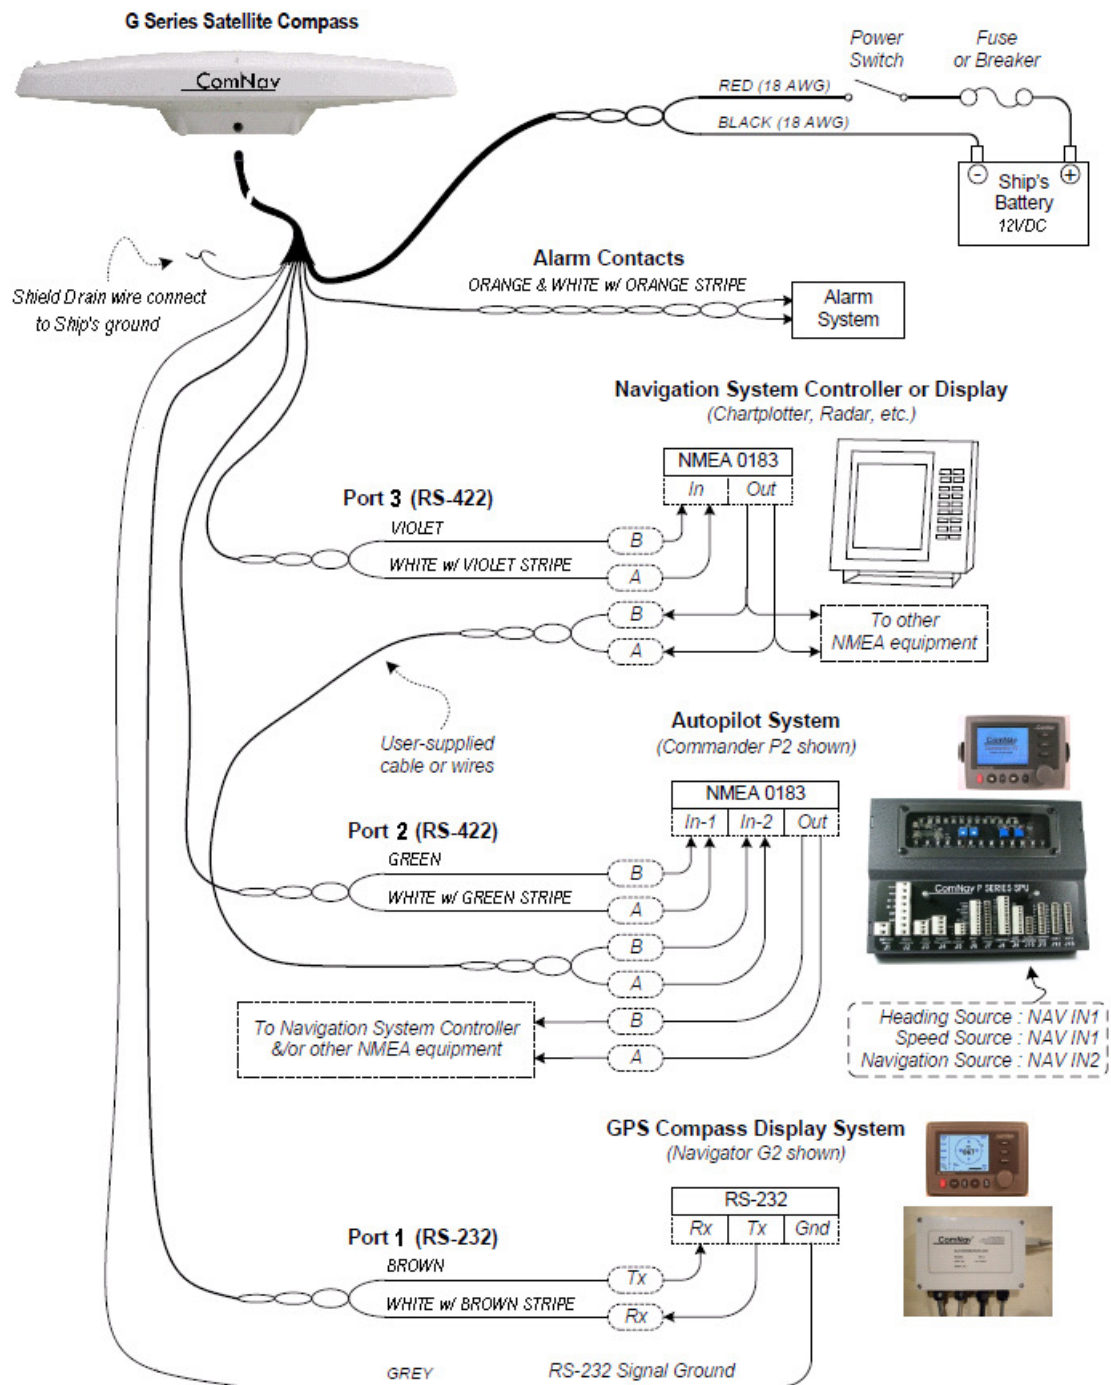
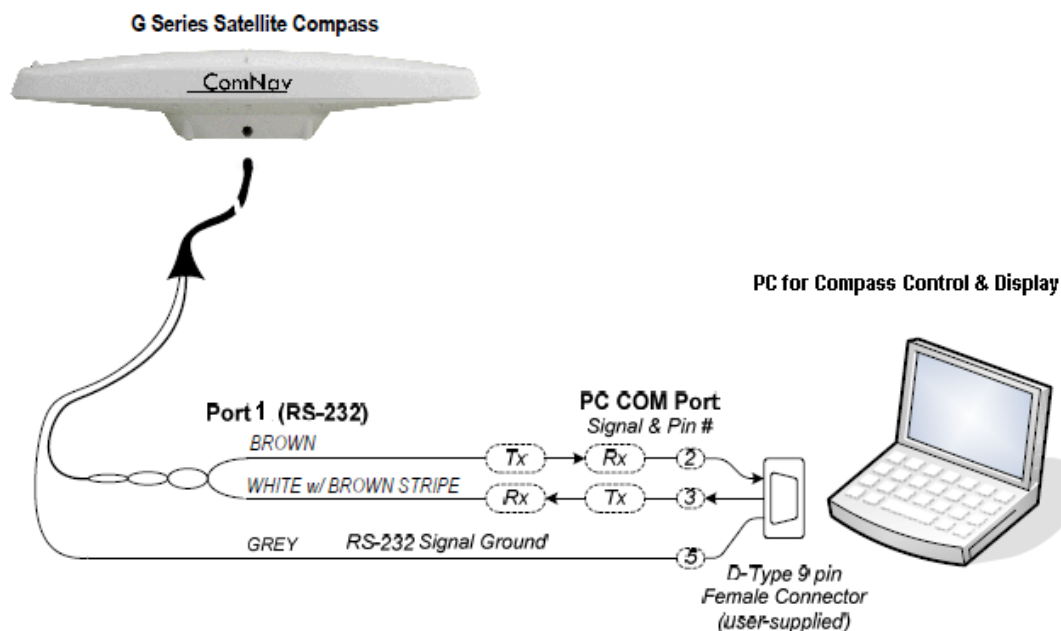
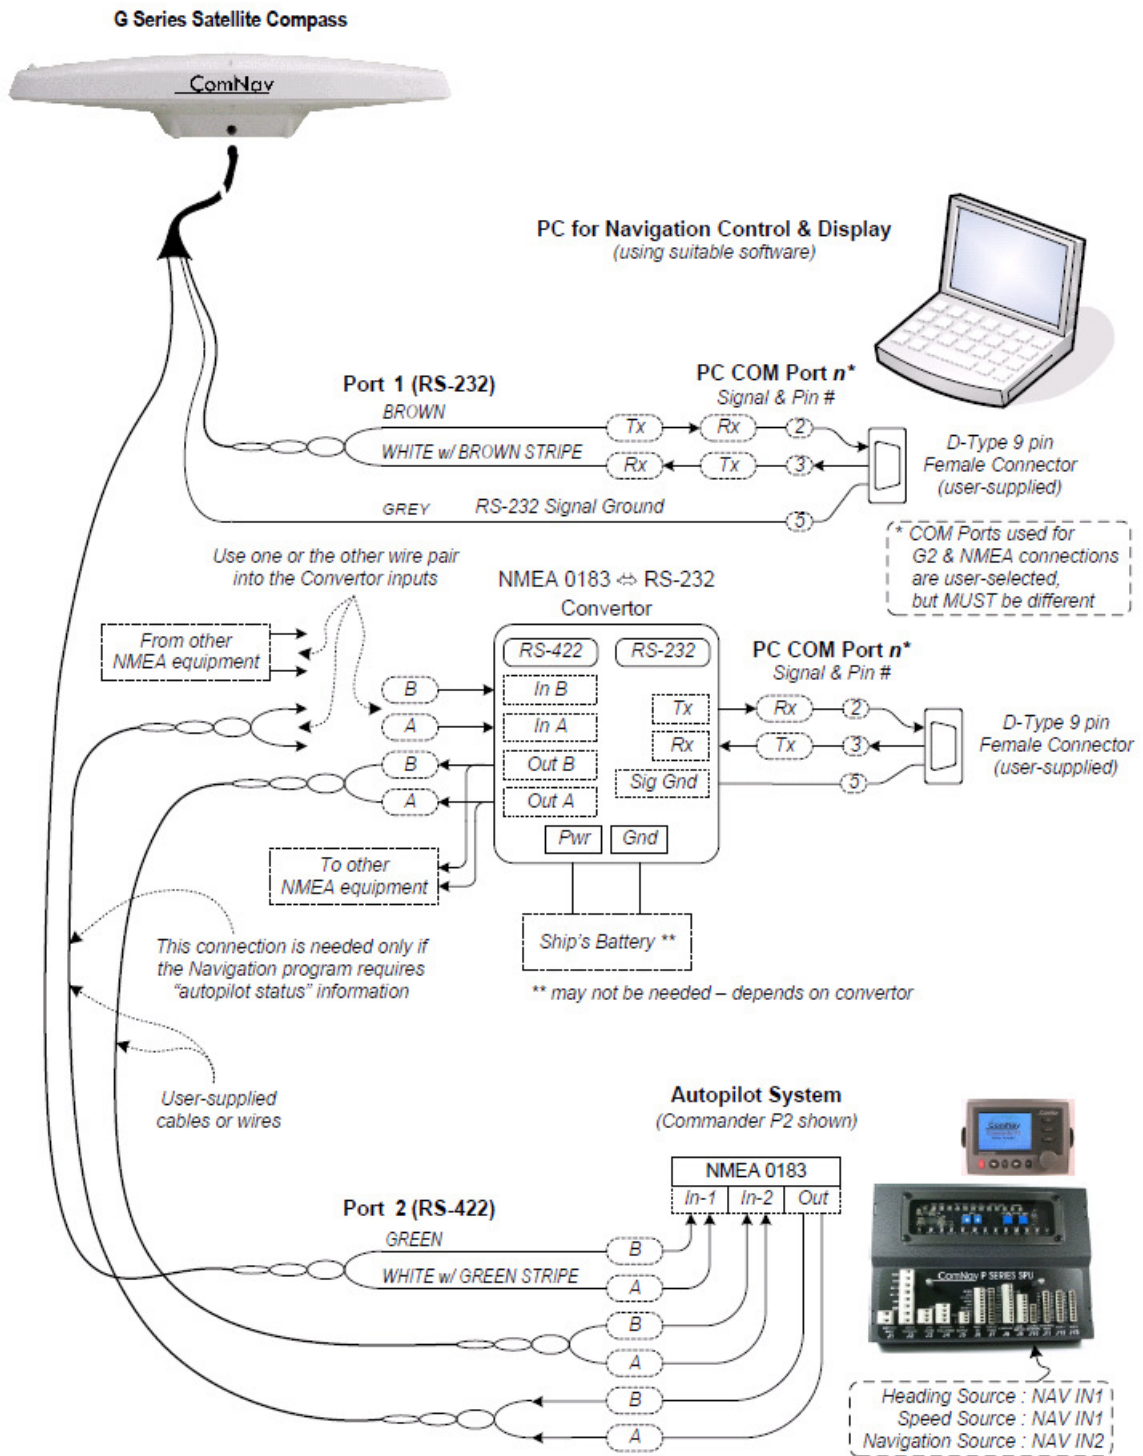

Figure 14 - Typical Wiring Diagram of a G2 System with Autopilot and Compass Display
Figure 16 – Typical wiring with a PC for G2 Control & Display
Figure 17 – Typical wiring with a PC based Navigation Program
There are a number of ways to make the data connections required between the G2 and other equipment on the vessel. See Figure 14, Figure 16 and Figure 17 for common examples:
See Figure 14.
Figure 16 shows the typical connections when using a PC, instead of a Navigator G2 Display, to configure the G2, and/or monitor its status.
Figure 17 shows the typical connections when using a PC, instead of a Chartplotter or some other type of NMEA Navigation equipment, to perform “Navigation display &/or control” functions – viewing the vessel’s position on a chart, setting waypoints and so on.
⇒ Since very few PCs have built-in RS-422 ports, an RS-232 ⇔ RS-422 Convertor will usually also be needed (as shown in Figure 17).
- *Wire the G2's Port A RS-232 Tx signal to the PC COM port's Rx signal, and wire the RS-232 Signal Ground, both as shown in Figure 17.*